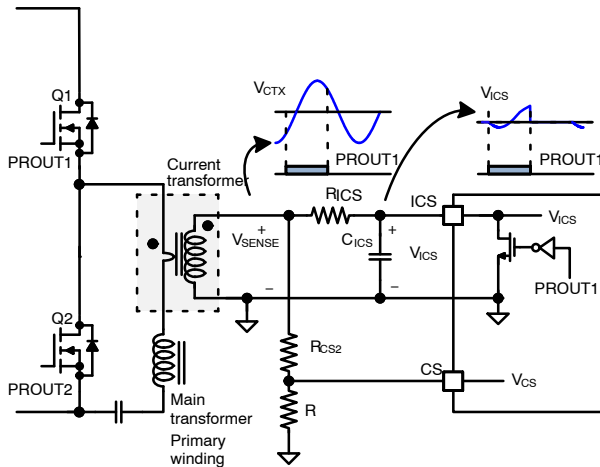
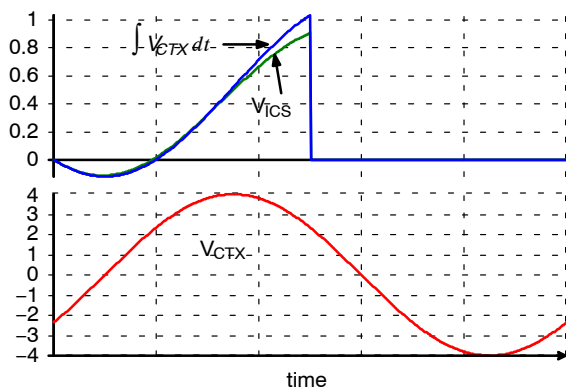
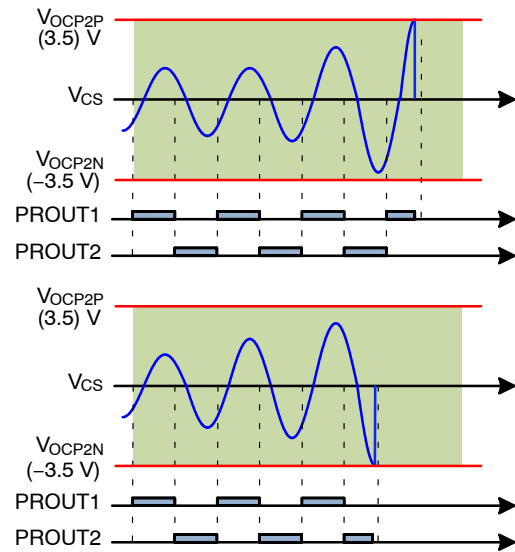

Figure 61. Current Sensing of FAN7688
Figure 62. Generating the Integral Signal (V_{ICS}) from V_{SENSE}
Figure 66. Over-Current Protection of the CS Pin
FAN7688 senses instantaneous switch current and the integral of the switch current as illustrated in Figure 61. Since FAN7688 is located in the secondary side, it is typical to use a current transformer for sensing the primary side current. While the PROUT1 is LOW, the ICS pin is clamped at 0 V with an internal reset MOSFET. Conversely, while PROUT1 is high, the ICS pin is not clamped and the integral capacitor (C_{ICS}) is charged and discharged by the voltage difference between the sensing resistor voltage (V_{SENSE}) and the ICS pin voltage. During normal operation, the voltage of the ICS pin is below 1.2 V since the power limit threshold is 1.2 V. The current sensing resistor and current transformer turns ratio should be designed such that the voltage across the current sensing resistor (V_{SENSE}) is greater than 4 V at the full load condition. Therefore the current charging and discharging C_{ICS} should be almost proportional to the voltage across the current sensing resistor (V_{SENSE}). Figure 62 compares the V_{ICS} signal and the ideal integral signal when the amplitude of V_{SENSE} is 4 V. As can be seen, there is about 10% error in the V_{ICS} signal compared to the ideal integral signal, which is acceptable for most designs. If more accuracy of the V_{ICS} is required, the amplitude of V_{SENSE} should be increased.
6. Over-Current Protection (OCP): When V_{CS} is higher than 3.5 V or lower than -3.5 V, over-current protection (OCP) is triggered. The instantaneous primary side current is also sensed on CS pin. Since the OCP thresholds on the CS pin are 3.5 V and -3.5 V as shown in Figure 66, the CS signal is typically obtained from V_{SENSE} by using a voltage divider as illustrated in Figure 61. 150 ns debounce time is added for OCP.